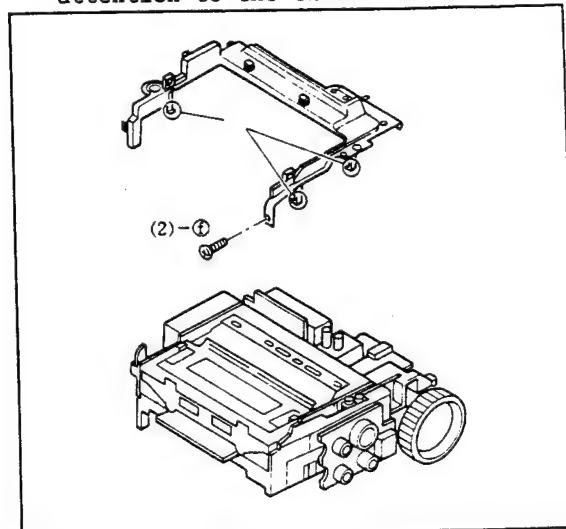

Fig. II-8
- (1) Demount the AV terminal cover while shifting the hinge pin.
- (2) Remove three screws ② and one ① (ref. fig. II-8).
- (3) Remove the connector CN801.
- (4) Demount the front cover.